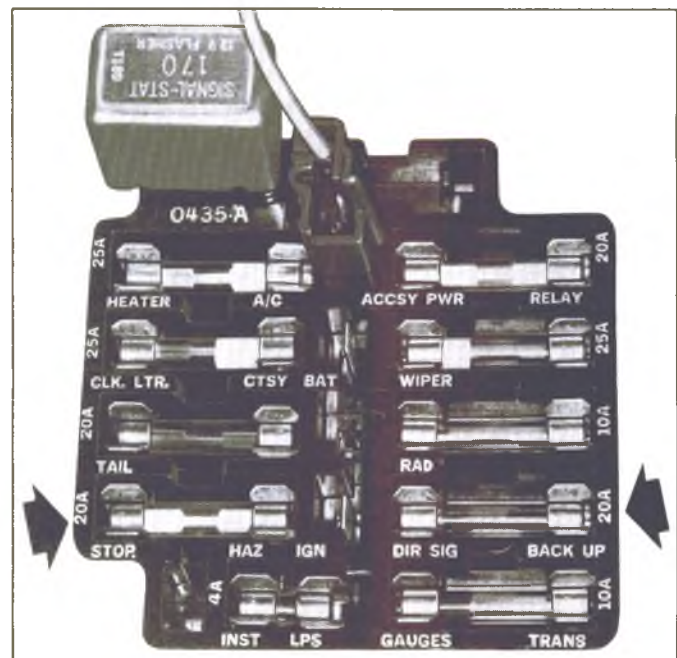

Fig. 117—Checking Fuses on Fuse Block
1. **Check fuses** (Figure 117). Replace if blown. If new fuse blows, replace flasher in system. (There are 2 flashers in the signal switch system. The hazard warning flasher is located on the fuse block, while the turn signal flasher is up under the instrument panel).